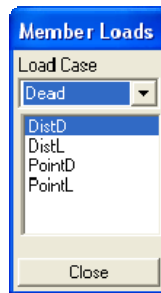

Figure 5-20 Member Loads dialog box
- From the Assign menu, choose Member Loads. The modeless dialog box of Figure 5-20 appears. To end member loads assignment, choose the CLOSE button.